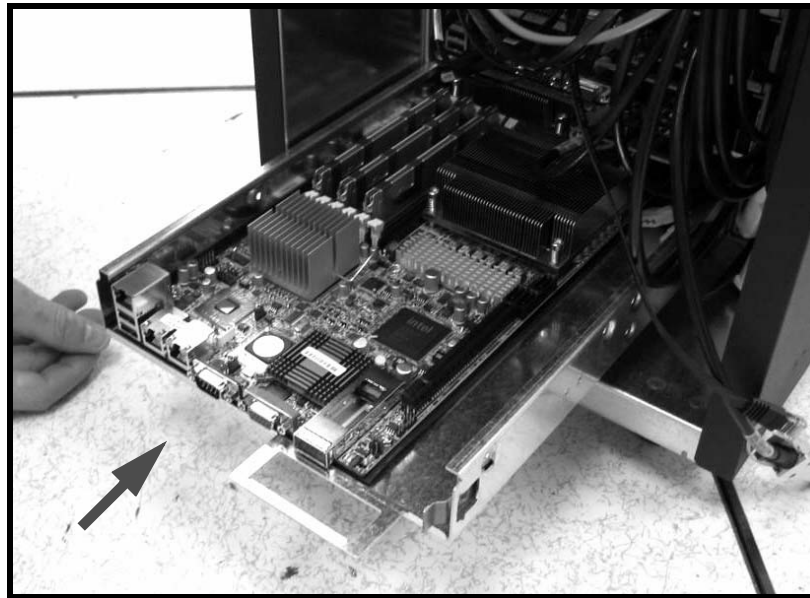

Figure 1-3 System Tray Installation
3. Slide the tray all the way into the enclosure until it is seated firmly in the connectors at the rear of the slot (use your thumbs to snap it into place if necessary); refer to Figure 1-3 on page 19.